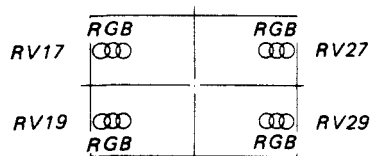

Fig. 1-18.
- Adjust RV17, RV19 and RV27, RV29 on the DB board to coincide with the R, G and B dots as shown in Fig. 1-18.